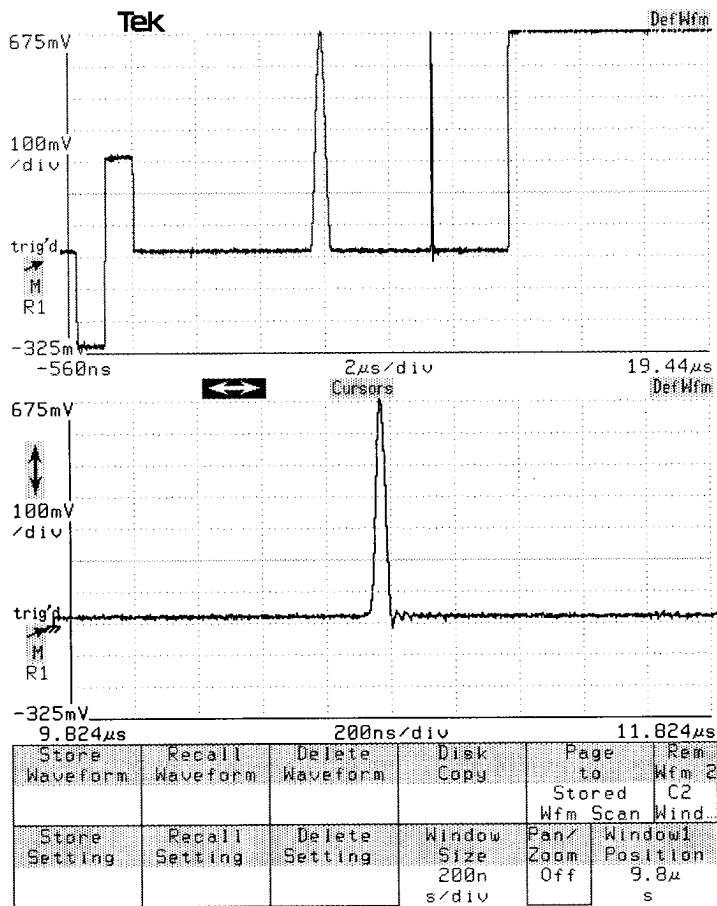

Figure 3-2 – 2T Pulse Displayed in a Window
- Step 9: On the mainframe touch screen, touch the Window icon to open a window. Touch the horizontal icon and use the knobs to expand the horizontal size to 200 ns/div. Use the knobs to position the window on the 2T pulse (see Fig. 3-2).